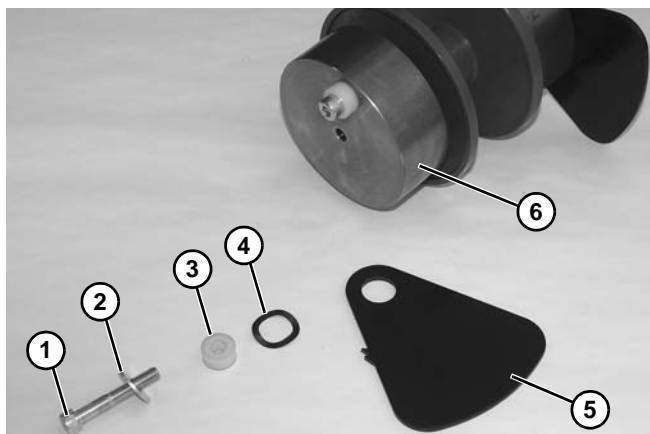

Figure 153
7. Remove bolt (Figure 153, item 1), washer (Figure 153, item 2), spacer (Figure 153, item 3), wave washer (Figure 153, item 4), and plate (Figure 153, item 5) from end of idler assembly (Figure 153, item 6).